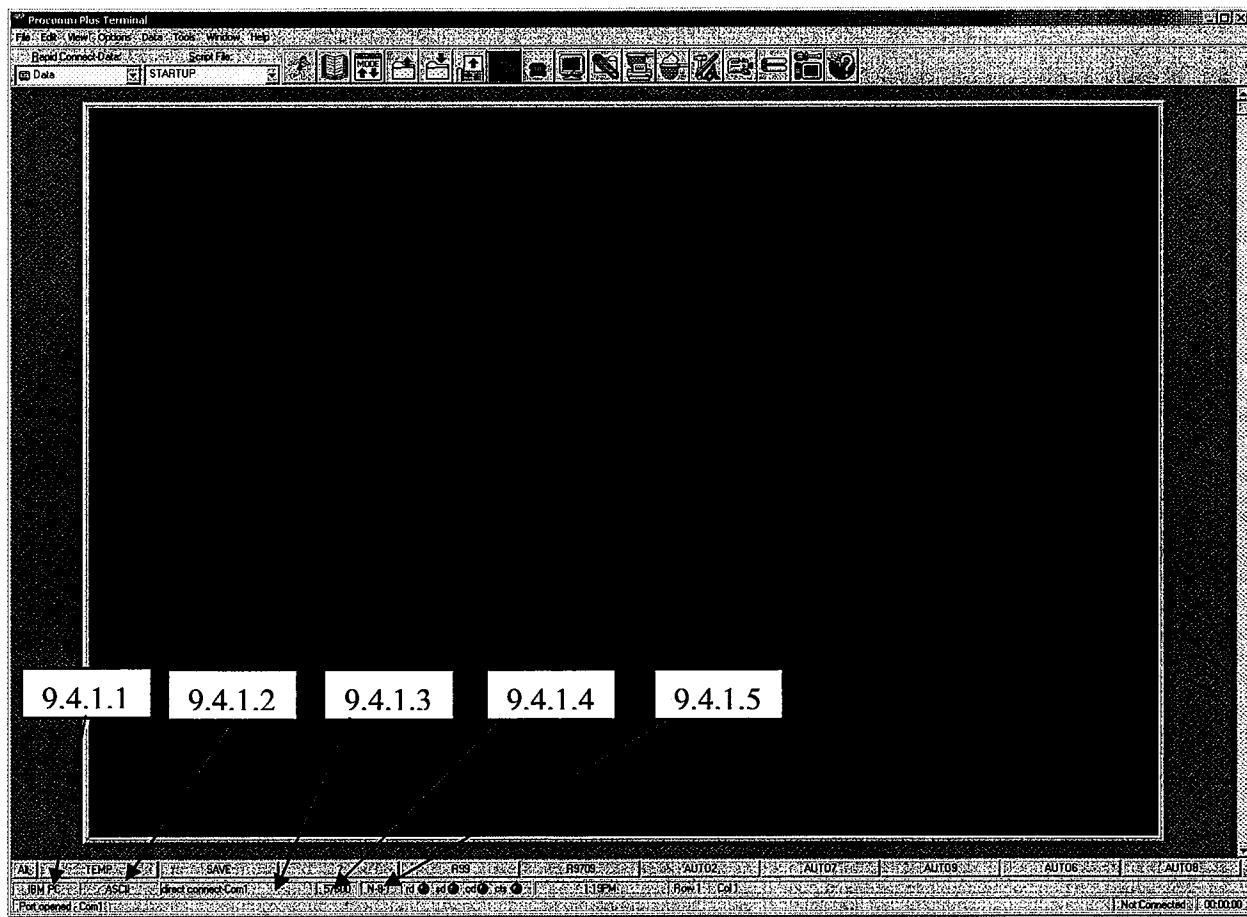

Figure 5
- 9.4.3 Below Figure 5 shows further detail.